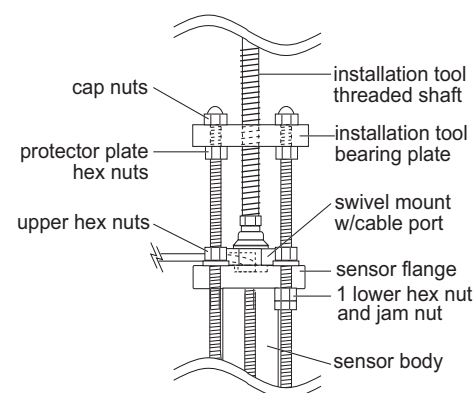

Fig. 18
- Wearing safety face protection, turn the installation tool shaft **counterclockwise** to withdraw sensor until the sensor flange contacts the upper hex nuts. (Fig. 18)